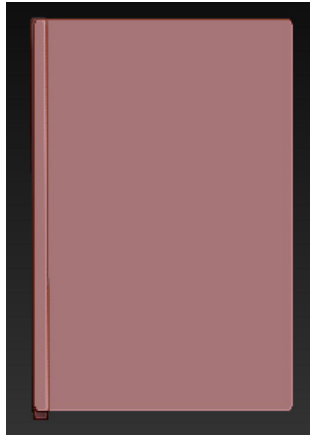

Figure 3-98 Line drawn on the left side of the door
5. Make sure that the Zadd button is chosen in the top shelf. Next, set the value of the **Draw Size** slider to **10**. Press and hold the left mouse button and draw a line on the left side of the *door*, as shown in Figure 3-98. While drawing the line, press and hold the SHIFT key to create straight strokes.